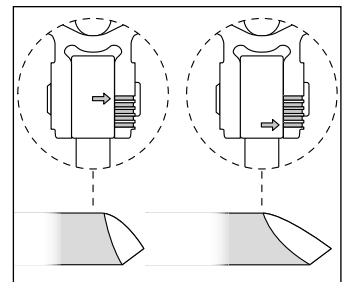

Fig 2
2. Adjust the angle of the shaft (C) relative to the tool holder (B) using the allen screw located inside the elbow joint (E). For shorter side bevels, such as those found on bowl gouges, lock the shaft in the uppermost position and for longer bevels, as on spindle gouges, lock the shaft in lower positions. See **Fig 2**.